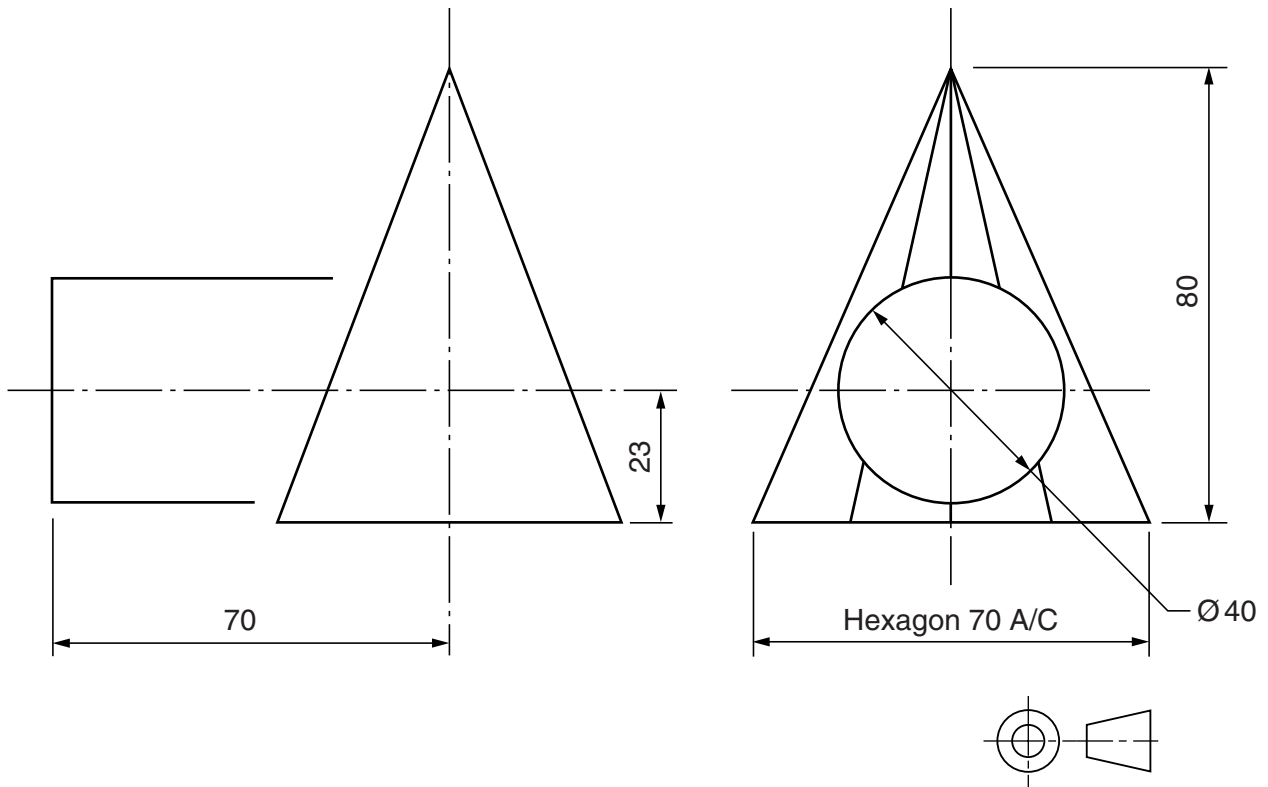

Fig. 5
- 9 Fig. 5 shows details of a model for part of a child's adventure playground.